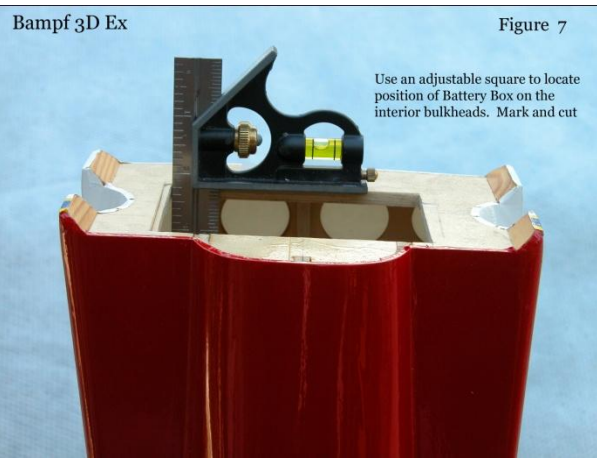

Figure 7
- a. It may be helpful to use an adjustable square to locate the Battery Box position on the interior bulkheads. Figure 7. Position the square against the edges of the hole in the Firewall and flush with the Firewall front surface, then mark the same position on the internal bulkhead(s). Move the square all around the Firewall hole and continue to mark the interior bulkhead.